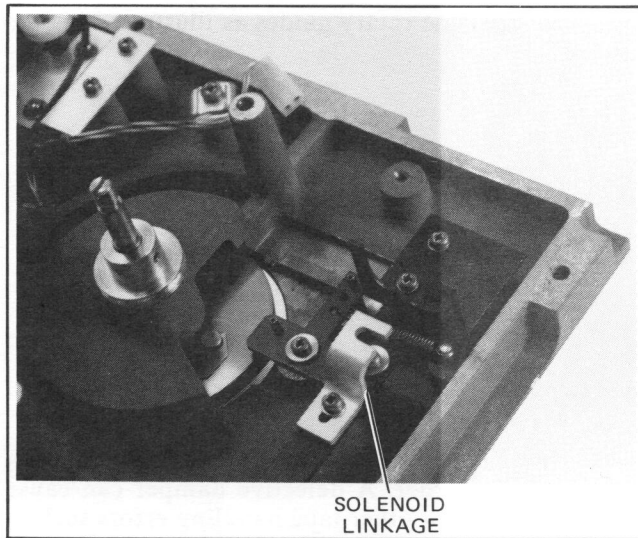

Figure 5-48. Solenoid Linkage Removal
- Remove the solenoid linkage as shown in Figure 5-48.